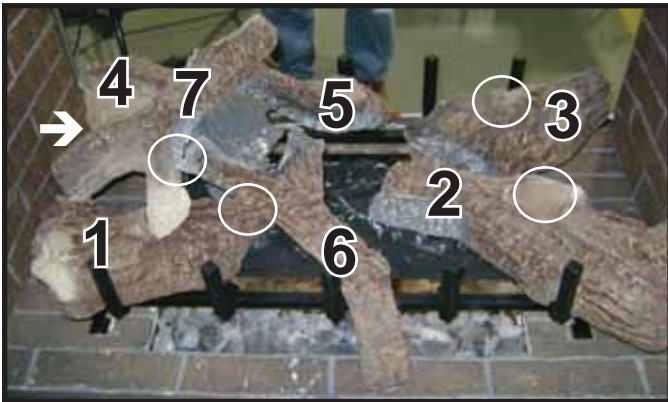
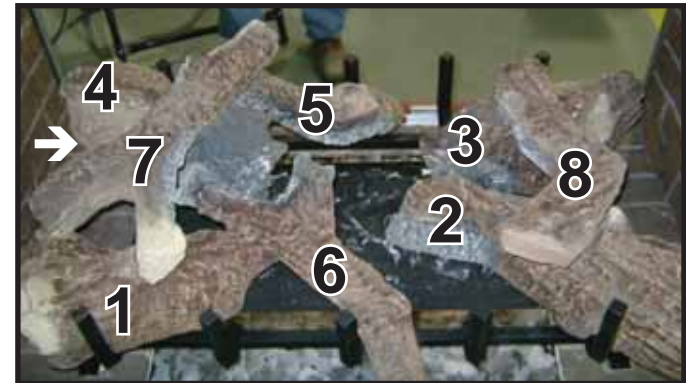

Figure 14
Figure 15
**LOG NUMBER 6 (SRV2146-706):** Place Log #6 onto grate and log #1. The groove on the bottom of the log will engage the center grate bar and the other end of the log will rest on Log #1, with the tip touching Log #7. The points of contact are indicated by the circles located on Log #6 and Log #7 in Figure 14. The log must **NOT** block or sit directly over any burner ports.
**LOG NUMBER 8 (SRV2146-708):** Locate notch on Log #2 and notch on Log #3 indicated by the circles on Figure 14. Place Log #8 so that it rests in these notches. See Figure 15.